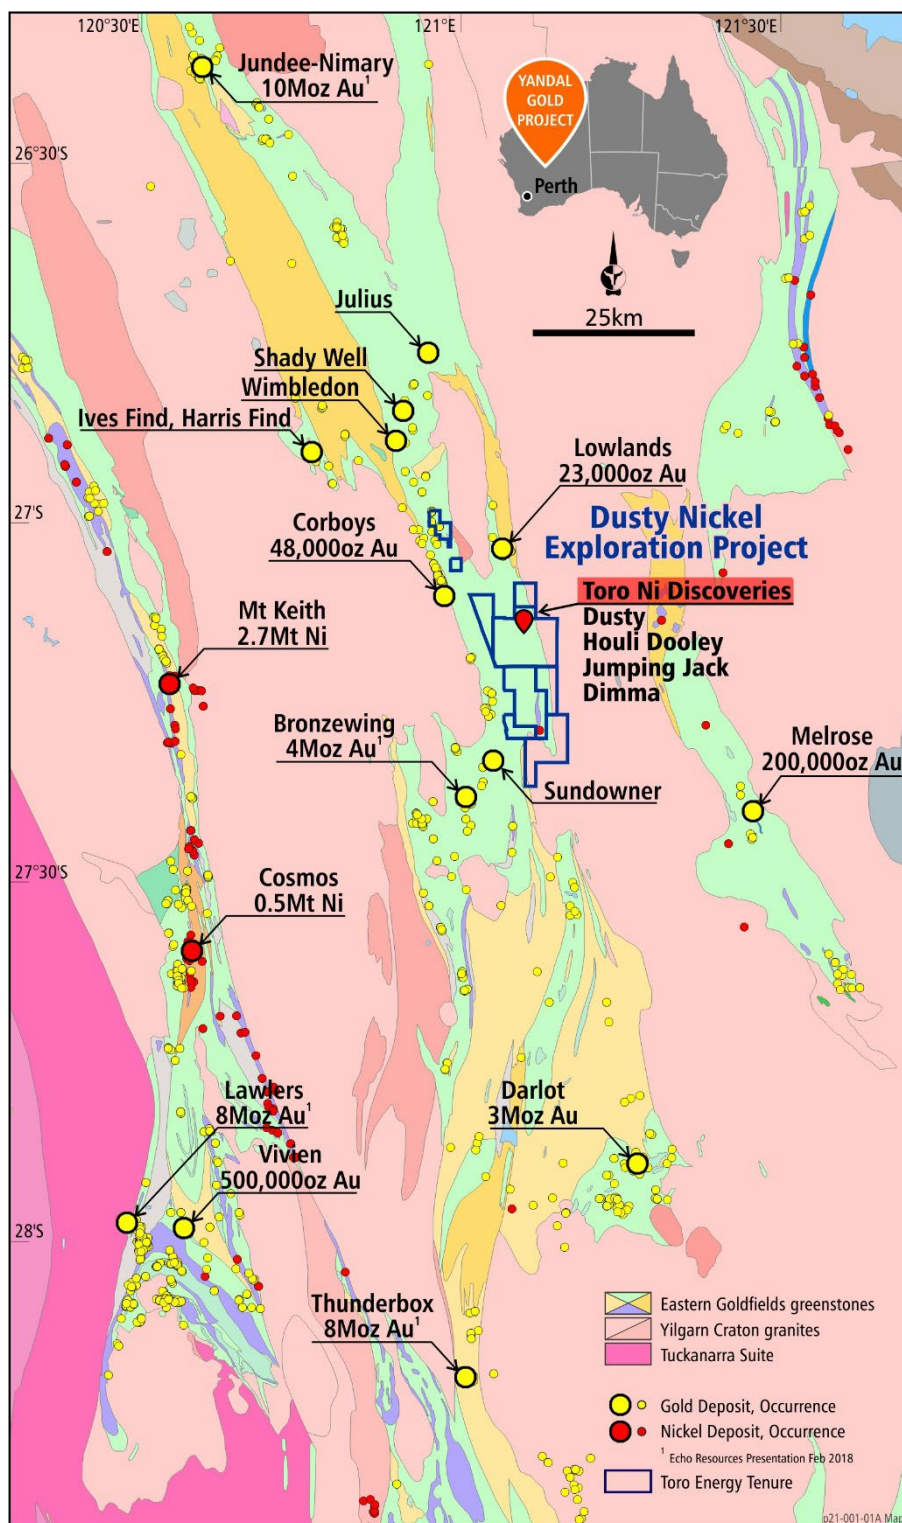

Figure 3: Location of the Dusty Nickel Project and the recent Toro Ni-sulphide discoveries
- Dimma is one of four (4) massive and semi-massive Ni-sulphide discoveries at Toro's 100% owned Dusty Nickel Project, located in the Yandal Greenstone Belt, some 50km east of the world class Mt Keith Nickel Deposit (see Figure 3 below)
- Only ~4km of the 7.5km long Dusty Komatiite magnetic trend has been tested to date and Toro has already discovered four (4) zones of massive or semi-massive Ni-sulphide
The Dimma Nickel Discovery is one of four massive and semi-massive Ni-sulphide discoveries at the Company's 100% owned Dusty Nickel Project (**Figure 2**), located in the Yandal Greenstone Belt, some 50km east of the world class Mt Keith Nickel Deposit (**Figure 3**).